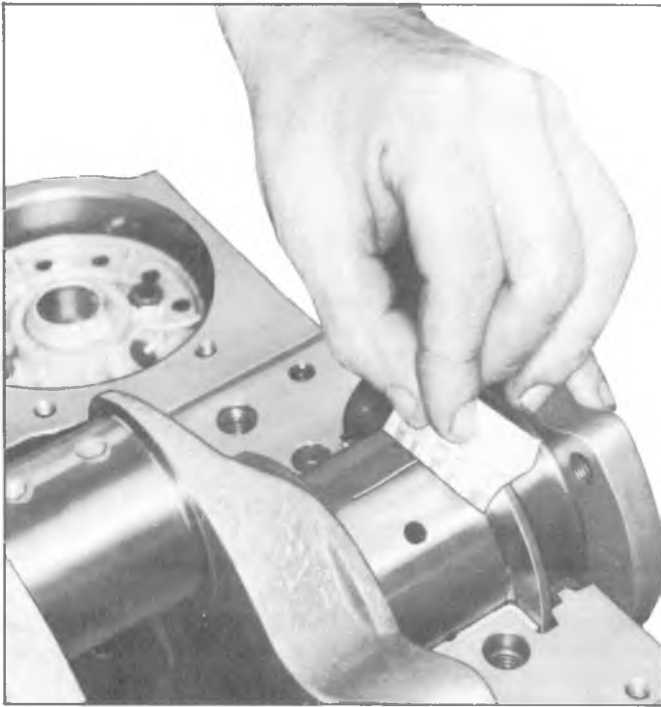

Fig. 6A-60V—Measuring Gauging Plastic
5. On the edge of gauging plastic envelope there is a graduated scale which is correlated in thousandths of an inch. Without removing the gauging plastic, measure its compressed width (at the widest point) with the graduations on the gauging plastic envelope (fig. 6A-60V).